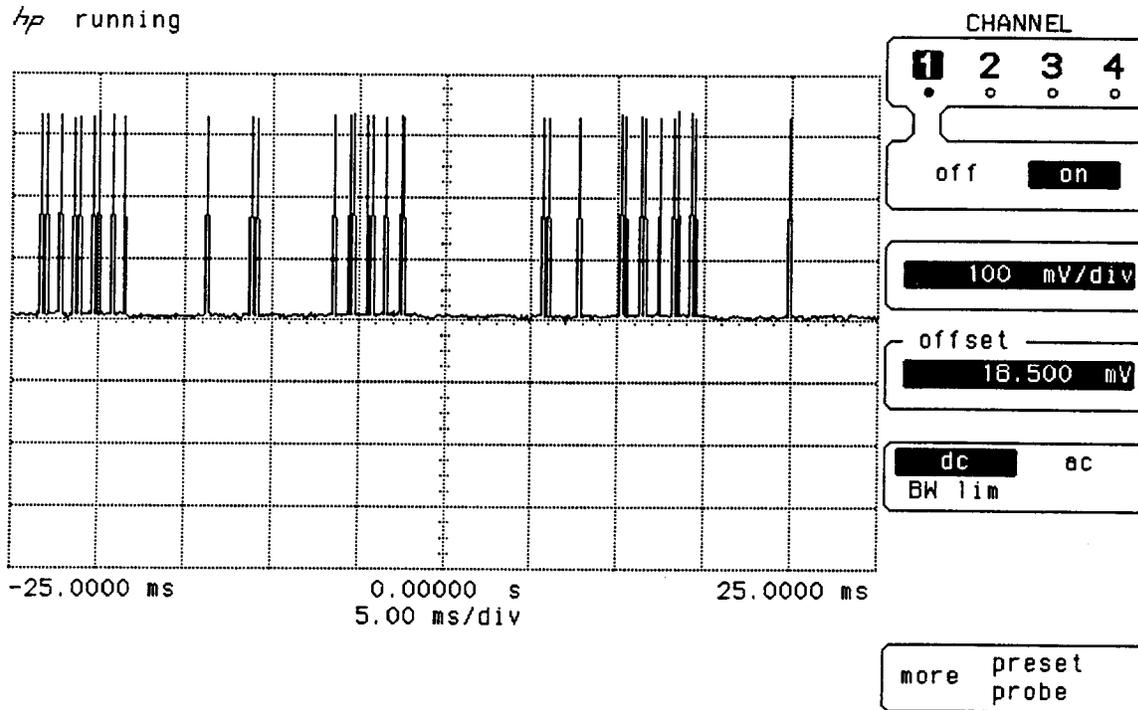

Figure 4-15. Half-Bright Video Signal (With CRT Diagnostic Running)
- Verify that the CRT video signals (Half-bright, Full-bright) are similar to Figures 4-15 and 4-16.